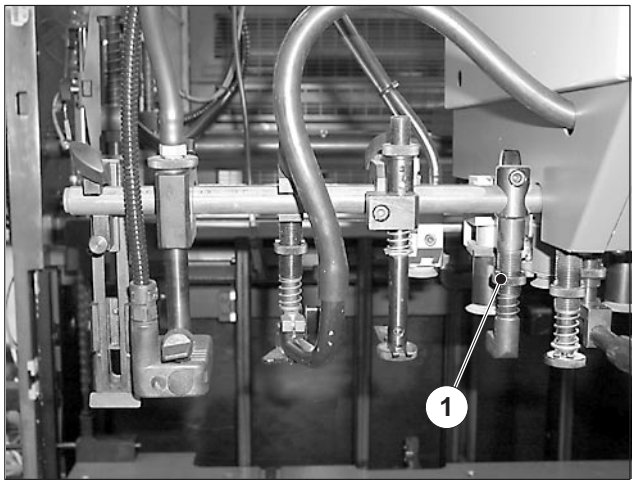

Fig. 32 Sheet separation blowers – adjusting the height
1. Adjust the height of the sheet separation blowers with the knurled nut (Fig. 32/1). We recommend to adjust the blast air such that 5 - 10 sheets are fanned.